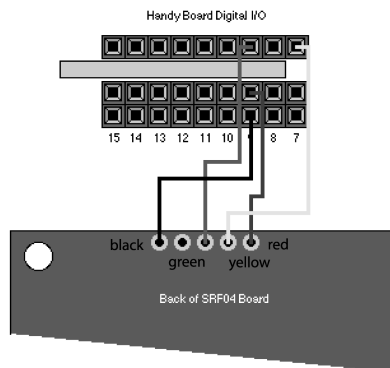

Figure 2. Interfacing the SRF04 with the Handy Board.
1. Interface the sonar sensor to the Handy Board as shown by Figure 2 below. Turn the Handy Board on and connect it to the computer. Start Interactive C (IC), noticing that SONAR.C is loaded with IC. SONAR.C sends a ping and measures the time to return. An integer is returned, which is the time of flight in internal clock ticks. This is the number of CPU clock cycles (or ticks) that pass while the signal travels to the object and then returns. In interactive mode, try typing `printf("%d\n", sonar());` at the prompt several times to see this.